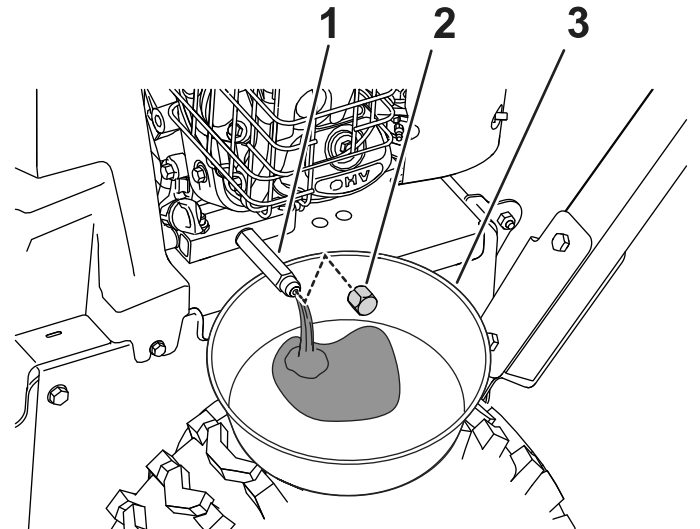

Figure 29
1. Place a pan under drain fitting and remove the oil-drain cap (Figure 29).